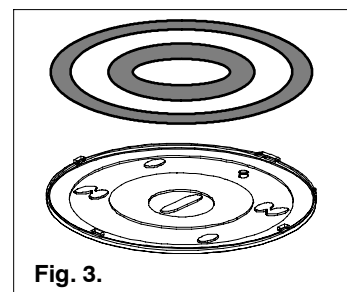

Fig. 3.
4. From the selected color, insert the larger color ring in the outer ring, and the smaller color ring in the inner ring of the detector front plate (see Fig. 3.).